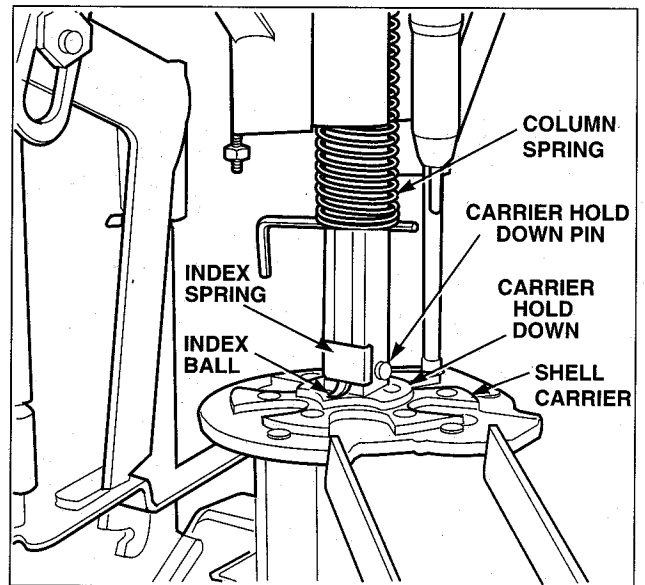

Figure 44
2. Lift the column spring above the hole in the column and insert an allen wrench (or nail) in the hole, Figure 44.